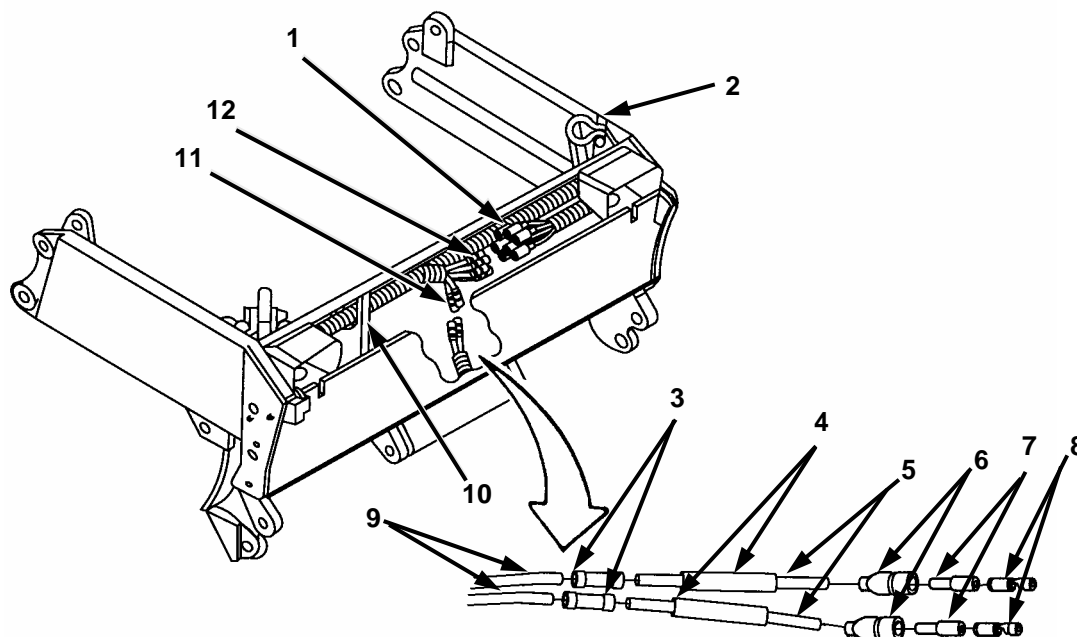

Figure 2-32. Headlight Wiring Harness.
- b. Route headlight wiring harness 12491606 (Figure 2-32, 12) through openings in top of four braces (10) inside apron back wall starting from left headlight to right headlight and fix with tie straps MS3367-1-9.